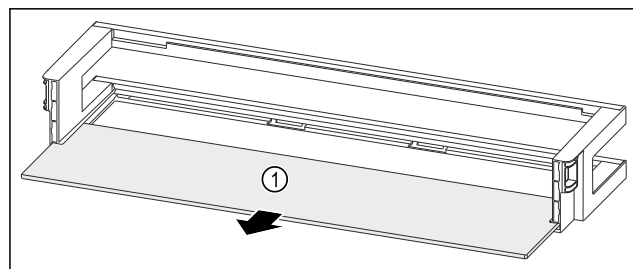

Fig. 96 Door rack with shelf
- Remove the shelf Fig. 96 (1).